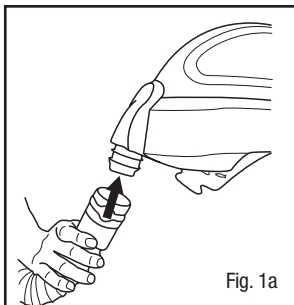

Fig. 1a
- Connect approved breathing tubes by pushing the QRS (Quick Release Swivel) end of the breathing tube (i.e., end with the black pinch clip) onto the air inlet of the headgear (Fig. 1a). The breathing tube should make an audible click when attached. Verify breathing tube is secured to the headgear by swiveling and pulling on the connection. If it is not securely connected, detach and reconnect.